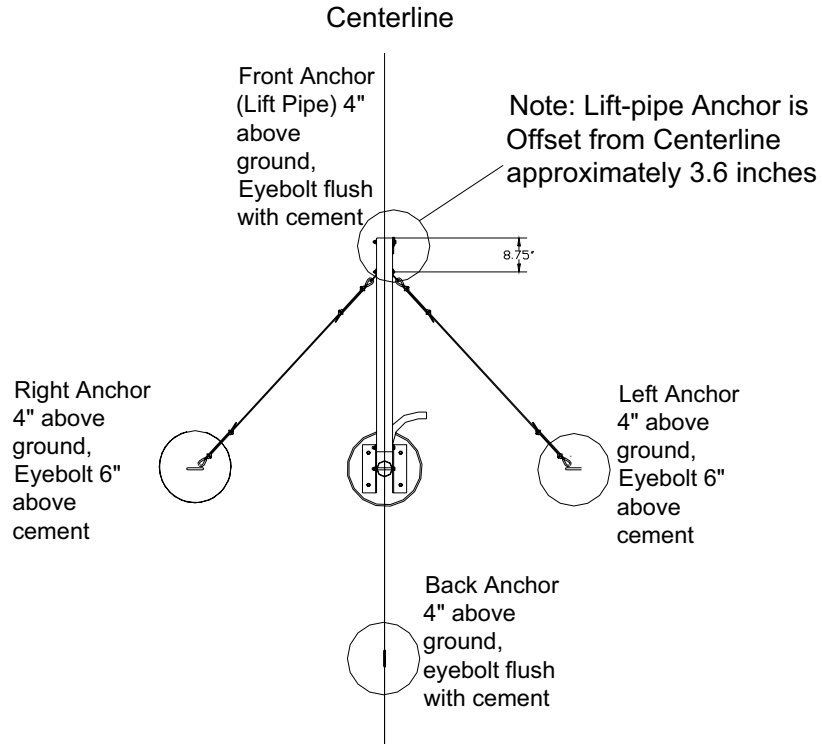
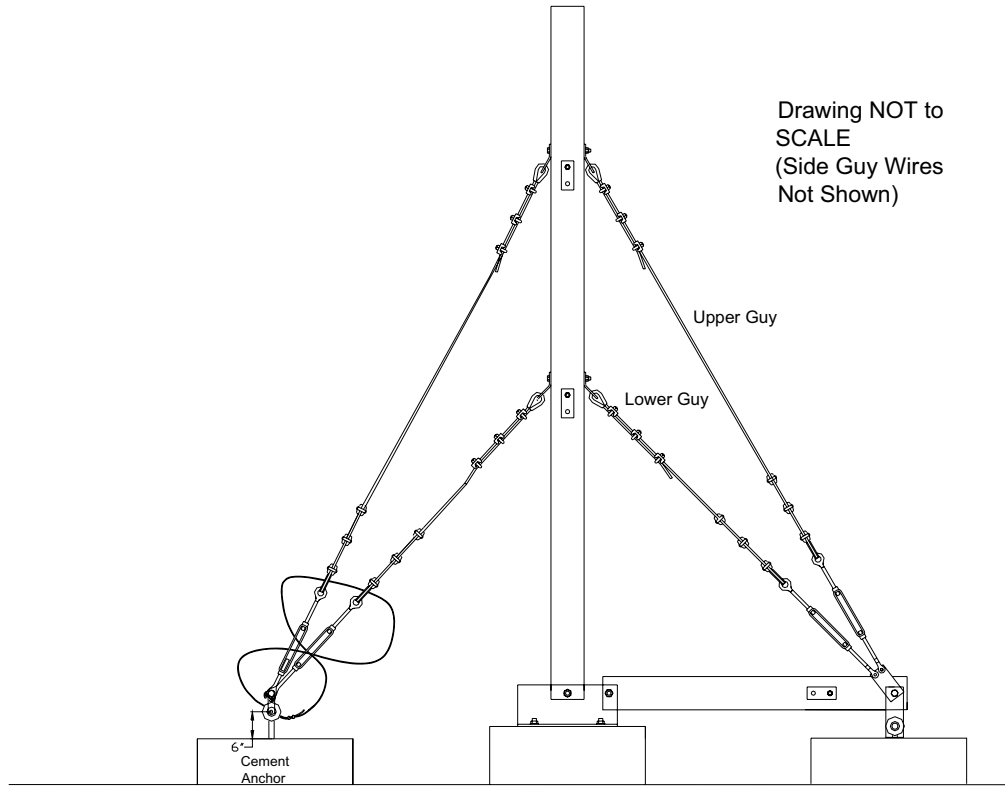

Figure 7: Birdseye View of Anchors and Lift-Pipe
Figure 8: Tower Assembly Side View
This tower kit must only be erected on a calm day (no wind). The tower base and anchors should be laid out as described in Figure 2 and Figure 7. The tower will be assembled laying on the ground and then tilted up into position.
Carefully study *Figure 2 and Figure 7* to help you determine how much space you will need to raise your tower, which is pulled up from the lift anchor. Be especially aware that the concrete anchors are 4 inches above ground level. The lift anchor is slightly off-center (3-4 inches) in order to be assembled with the metal links. Keep both things in mind while you dig and
The base anchor should be 6 inches above ground level. The four guy wire anchors should be 4 inches above ground level (see Figure 2). The two side anchors should have the center of the 3/4" x 12" eyebolt located **6 inches** above the top of the concrete anchor (see Figure 4.3). The backside anchor and the lift-pipe anchor should have the center of the 3/4" x 8" eyebolts **1.5 inches** above the concrete anchor (see Figure 4.2). The lift anchor has hardware and plates that connect it to the lift-pipe anchor (see Figure 4.1 and 4.2), and if you do not level the anchors appropriately you will have problems installing the kit. Also, the anchor for the gin pole is offset to the side between 3 and 4 inches to accommodate the linkage hardware (see Figure 7). See Figure 4.2 and Figure 8 for details.
- Attach the side anchor guy wires to the gin pole as shown in Figure 7.
Figures 7, 8, 9.1 and 9.2 show details on how the guy wires should be assembled. Make sure you measure the length of the guy wires correctly, otherwise they will not be the proper length and you will spend much time resetting them.